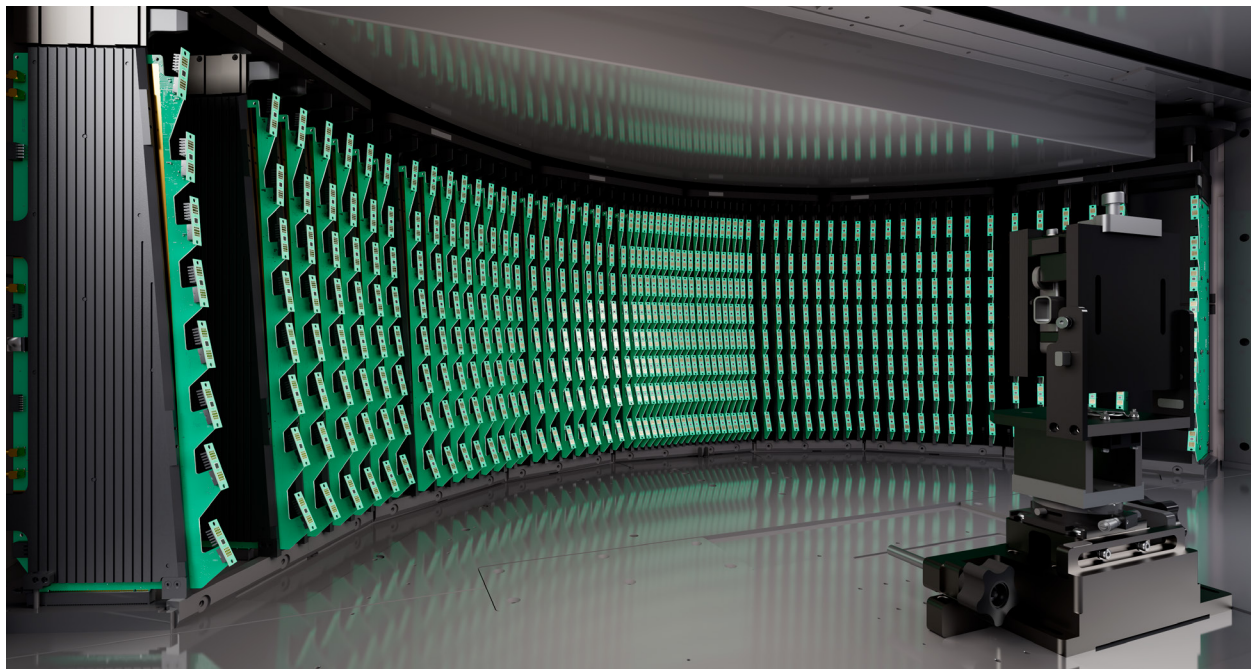

Figure 6. An animated rendering of 64 boards assembled into a screen of RF front ends
- 64 boards arranged in a semicircular array to form an emulation screen (Figure 6)